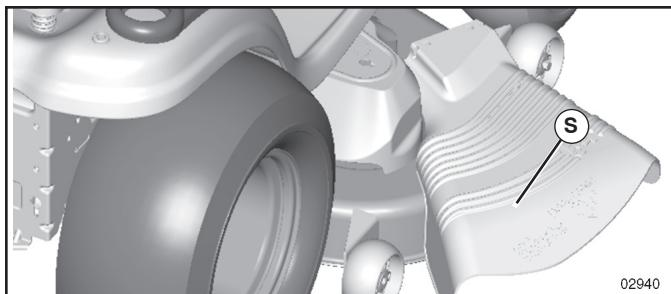

FIG. 11
CAUTION: Do not operate the mower without either the entire grass catcher, on mowers so equipped, or the deflector shield (S) in place. (See Fig. 11)